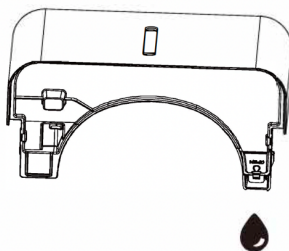

Figure 2
2. Empty the water from the tank. *(figure 2)*